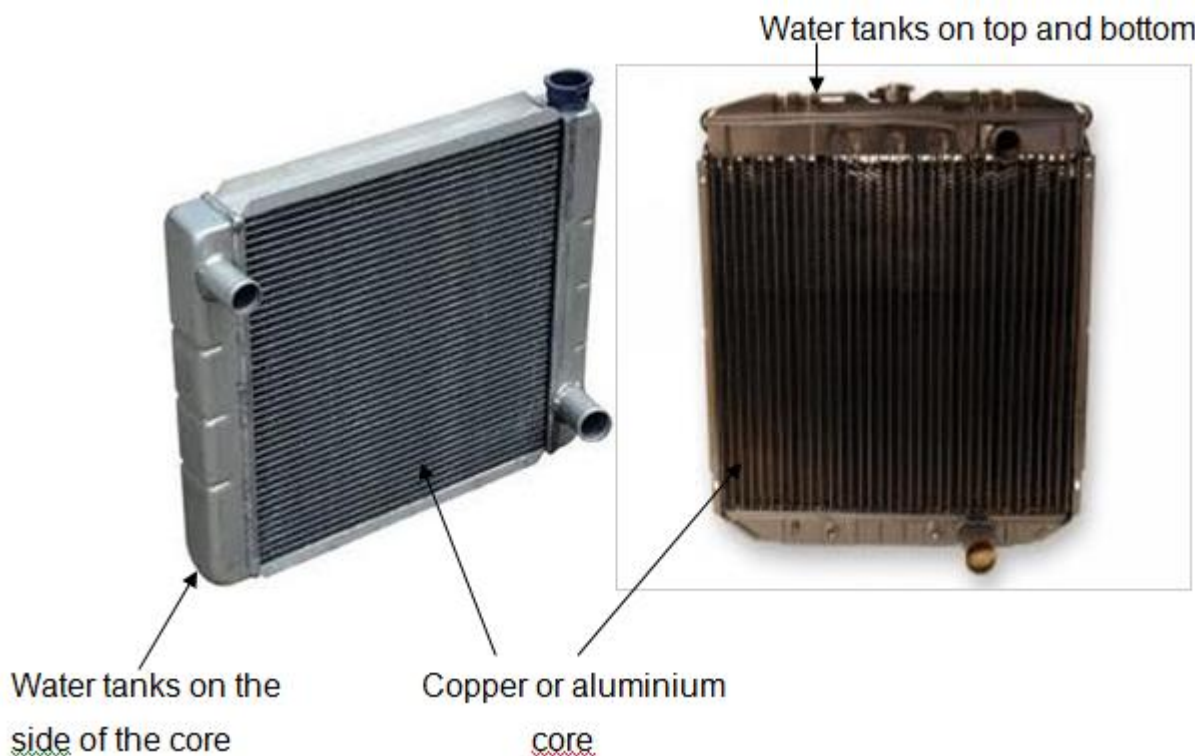

Fig. 2
- The radiator acts as a heat exchanger. It consists of a bank of finely finned, flat tubes connecting the upper and lower tanks, and through which the water flows (Fig. 2).